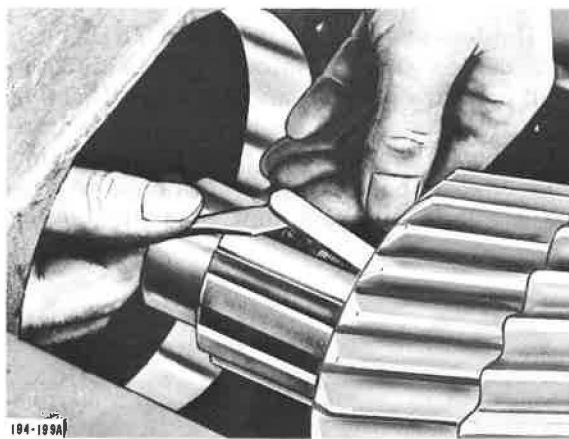

Figure 5-8. Removing Fourth or Fifth-Speed Gear Key
8. Remove mainshaft spigot bearing inner race retaining snap ring. With fourth/fifth-speed sliding clutch against bearing inner race, tap on clutch with nylon mallet and remove both parts from mainshaft. Pry key out of mainshaft spline. See Figure 5-8. With a small tool, rotate fourth/fifth-speed gear sleeve one spline and slide sleeve and fourth/fifth-speed gear off of mainshaft.